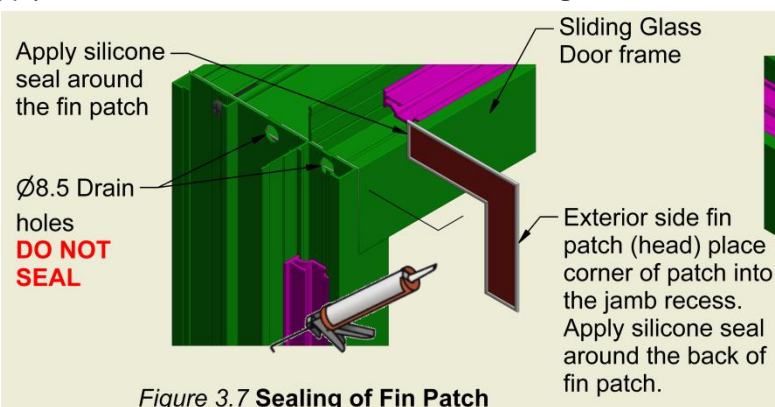

Figure 3.7 Sealing of Fin Patch
- d) Install **fin patch** in both sides of the frame head corners as shown in **Figure 3.7** and **3.8**. Apply silicone seal around the fin patch and to the door frame fin and press the fin patch firmly to seal as shown in **Figure 3.7**.
IMPORTANT! There are two drain holes in the jamb extrusion at the join of the head and jamb extrusions as shown in **Figure 3.7**. These drain holes allow the water to drain from the head to the jamb and **MUST NOT BE FILLED WITH SILICONE**. If silicone enters this notch, remove it with a tool such as a small blade, screwdriver or knife before the silicone dries.